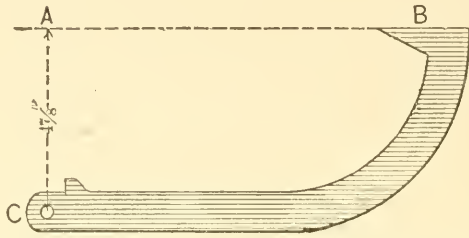
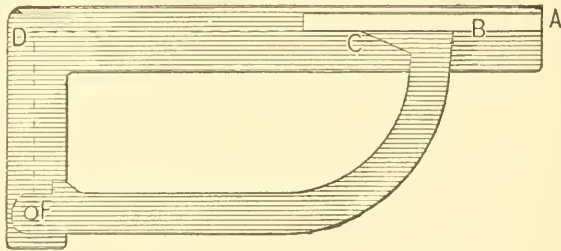

Fig. 185—Making a Cant-Hook. Showing Method of making Shoulder.
Fig. 186—Showing Method of Setting the Draw.
to make a shoulder, as shown in Fig. 185 of the illustrations, which prevents the hook from cutting away the soft iron of the clasp, and prevents the point of the hook from striking the pick.
lines *A C*, Fig. 185, and to get this exactly every time, I make the tool shown in Fig. 186. In making it I take a bar, 1 foot 6 inches long,  $1\frac{3}{4}$  inches by  $\frac{1}{2}$ -inch, and bend it 13 inches from *A* to *D*. At
*B*, Fig. 186, I weld on a piece of iron, 6 inches long by  $\frac{1}{2}$ -inch, with the edge to the *D* bar, and previously bent to the right shape. I then make the piece *B*, Fig. 186, true on the face (along *C*) with the square *D*. I next measure off from *D* 4 7-8 inches to *F*, and here set a 7-16-inch pin. I make the hook bend and lay as shown in the illustration, Fig. 186, being careful to have the hook true at *B D*. I file to a point from the inside of the point. For the bands, the